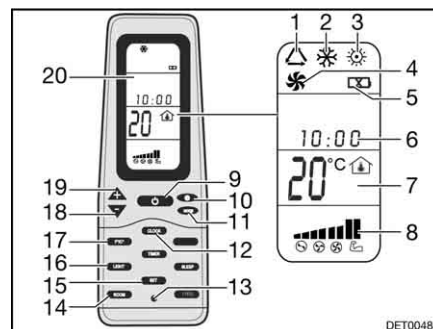

Fig. 196 Remote control
- Press the ON/OFF button (Fig. 196,9).
- Press the "Mode" button (Fig. 196,11) as often as required until the required mode (Fig. 196,1, 2, 3 or 4) is indicated on the display (Fig. 196,20).
- Use the "+" (Fig. 196,19) and "-" (Fig. 196,18) buttons to set the desired temperature.
- Use the fan speed button (Fig. 196,10) to select the desired fan level.